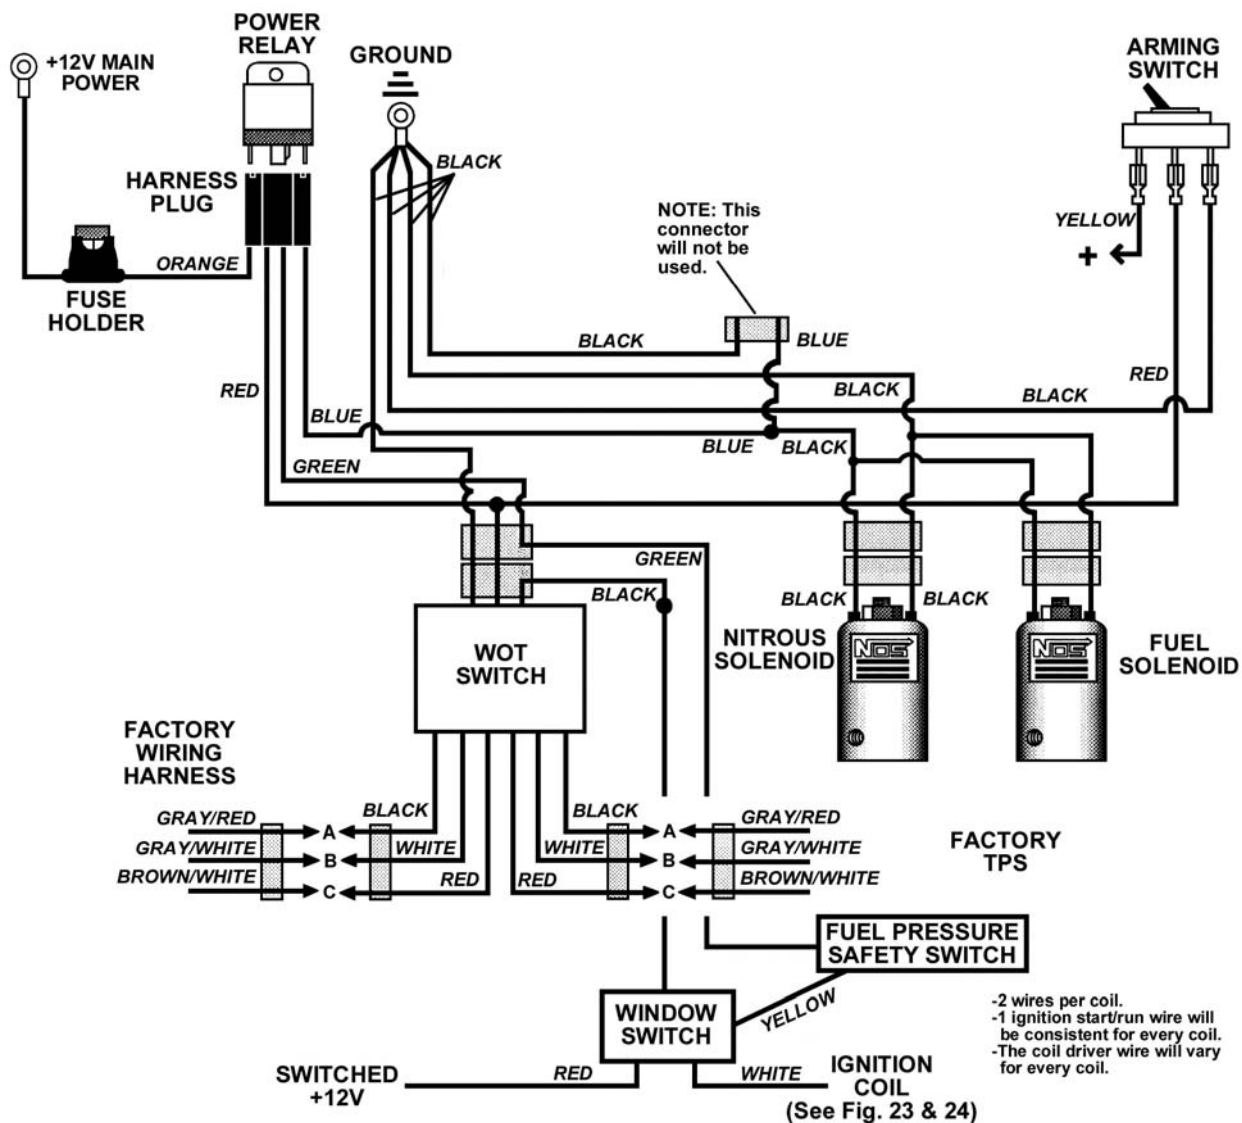
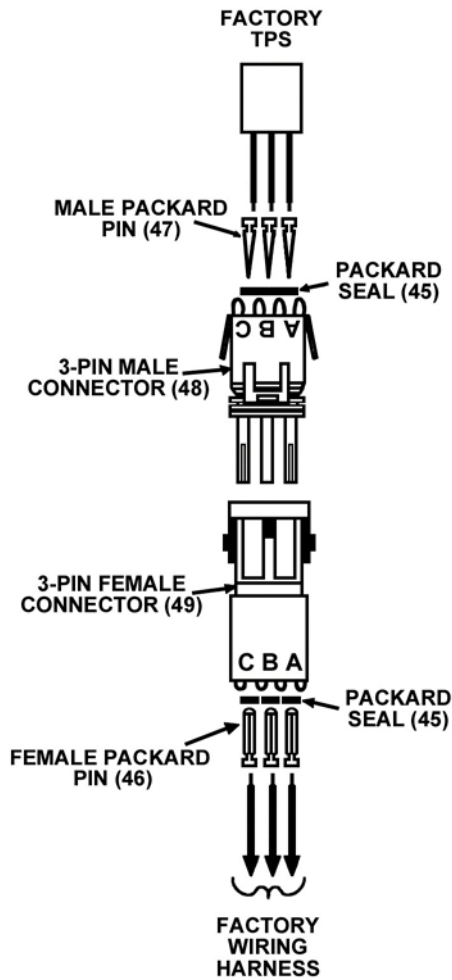
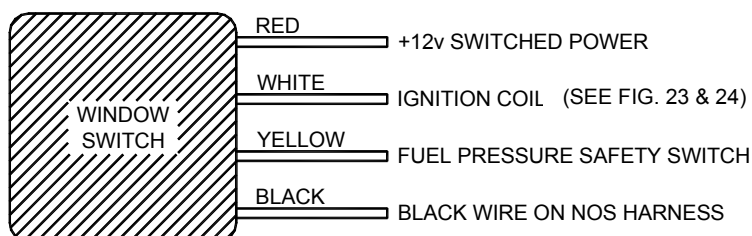

Figure 20
Figure 21 Packard Connection Exploded View
Figure 22
Use the following procedures for the electrical system installation. See Figure 20 for the electrical wiring schematic.
1. Mount the WOT Switch (30) in a convenient location. A good place to mount it is on the passenger side inner fenderwell. Use the supplied sheet metal screws to mount it, if desired.
3. Install the 3-pin Female Connector (49) with the Female Packard Pins (46) and the Packard Seals (45) on the TPS lead from the factory wiring harness. See Figure 20 for wiring color codes and Figure 21 for Packard Connection Exploded View. It is recommended to use Packard Connector tool PN 12814254 to crimp the connectors. If this tool is not available, it is recommended to carefully crimp the connector pins on with pliers, and then solder the wire to the pin.
4. Install the 3-pin Male Connector (48), Male Packard Pins (47), and the Packard Seals (45) on the open end of the factory TPS plug lead. See Figure 20 for wiring codes and Figure 21 for Packard Connection Exploded View.
5. Connect the male plug from the WOT switch (30) to the female plug on the factory wiring harness.
6. Connect the female plug from the WOT switch (30) to the male plug on the factory TPS.
### 2.9.2 RPM Window Switch Installation (refer to Figure 20 for a complete electrical wiring diagram)
1. An RPM window switch (32) is included with this NOSzle system. An RPM window switch allows for nitrous to only be activated in a selected RPM range. This provides two very important safety features: 1) It allows for the nitrous to only be activated at a safe RPM level, 2) It deactivates the nitrous before hitting the manufacturers set rev limiter in the engine control unit. If nitrous is activated at a very low rpm, possible engine damage can result. Hitting the engine control unit rev limiter with nitrous activated can cause severe engine damage.
2. The window switch needs to be wired properly. Please refer to Fig. 20, Fig. 22, and the directions given below.
3. Attach the relay (20) to the socket.
4. Install the 25 amp fuse (21) in the fuse holder.
5. Terminate and connect the orange main power wire with a round ring terminal. The best place to do this is in the fuse box. See Figure 20 for this connection. Install the wire after the large fuse.
6. Terminate and connect the black main ground wire with a round ring terminal. Use one of the existing vehicle grounds. Figure 20 shows a good ground to use.